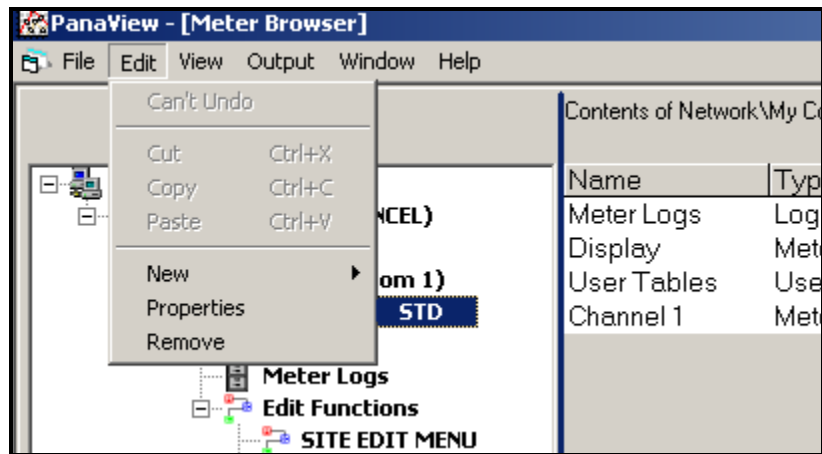

Figure C-15: The *Properties* Option
2. Right-click on the highlighted XGS868i and select the *Properties* option, as shown in Figure C-15 below.